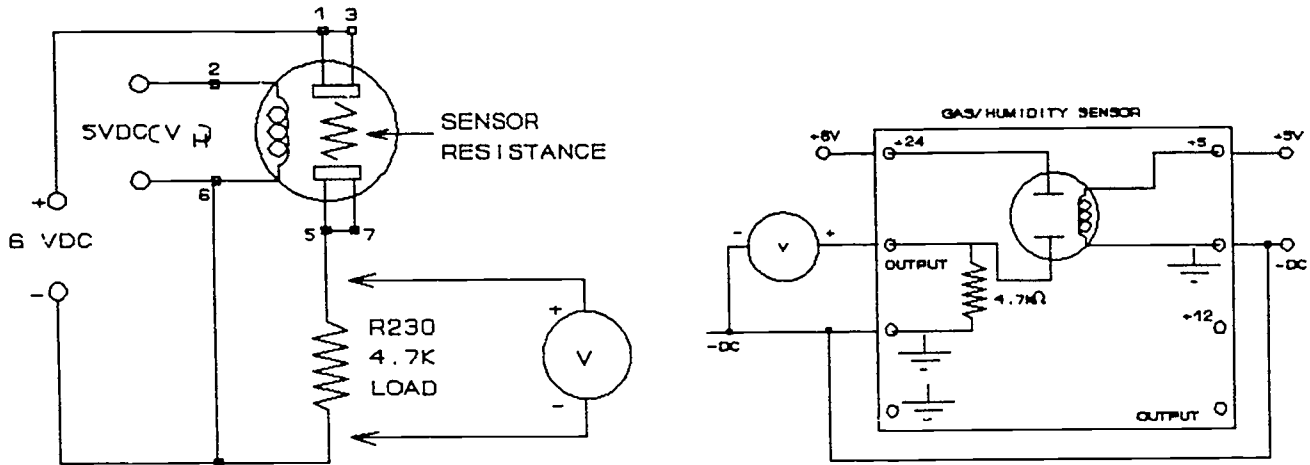

Figure G-4-2
- A. Connect the 6V and 5V power supplies along with a voltmeter as shown in Figure G-4-2 ("Voltmeter Wiring Diagram").